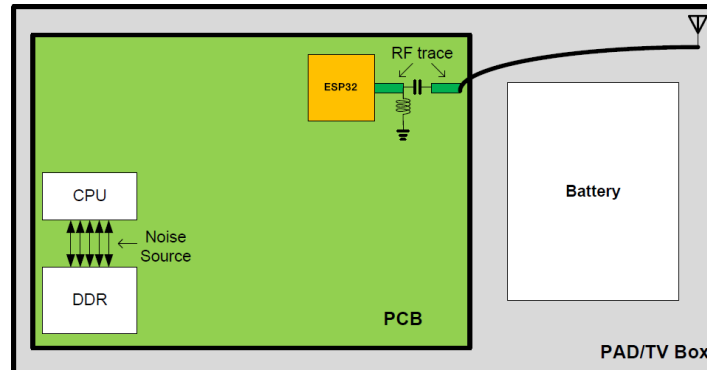

Figure 23: PAD/TV Box Layout
- As can be seen in Figure 23, ESP32 should be placed near the edge of the PCB and away from the CPU and DDR, the main high-frequency noise sources. The distance between the chip and the noise sources decreases the interference and reduces the coupled noise.